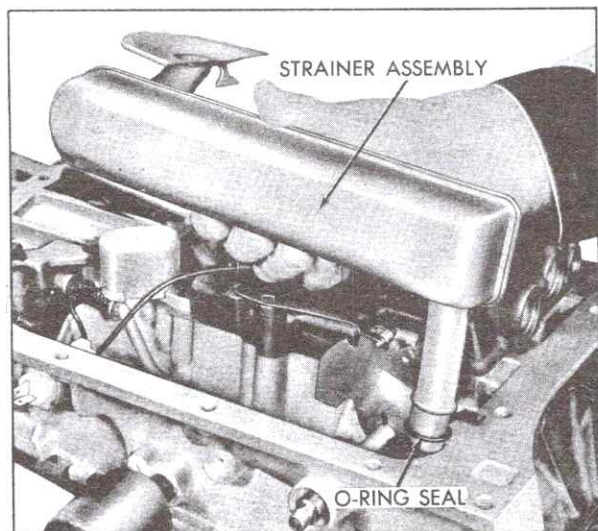

Fig. 7-33 Removing Intake Pipe and Strainer Assembly
3. Lift out pump intake pipe and strainer assembly, Fig. 7-33.